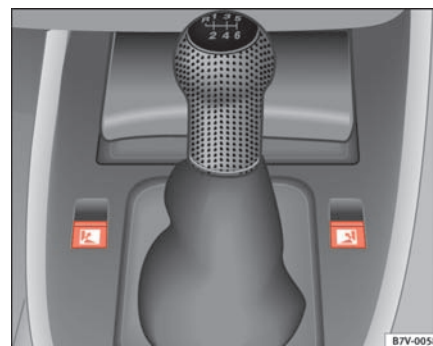

Fig. 66 Controls for electrically controlled vent wings
- A window is opened by pressing the corresponding switch ⇒ fig. 66.